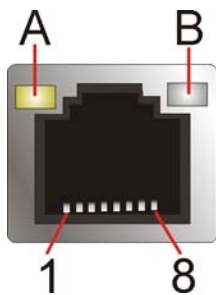

Figure 3-25: LAN Connector
- CN Pinouts: See **Figure 3-25 , Table 3-15 and Table 3-22**